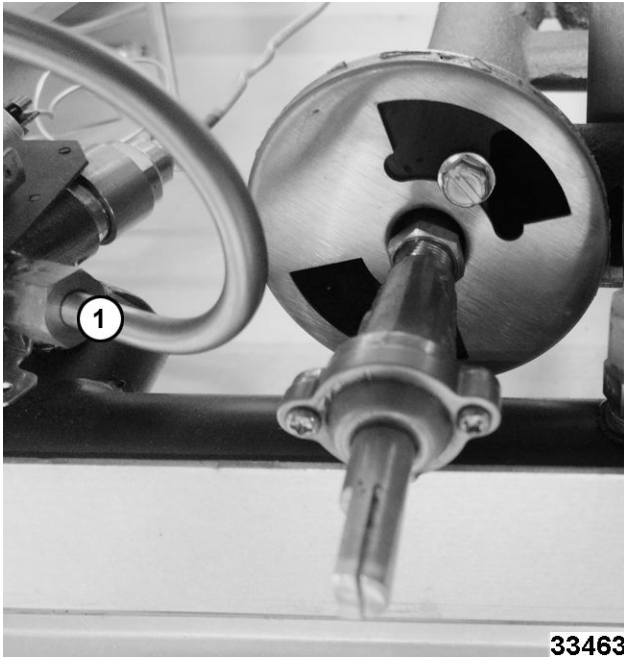

Fig. 22
- Disconnect pilot tubing (1, Fig. 22) from thermostat assembly for clearance if needed.